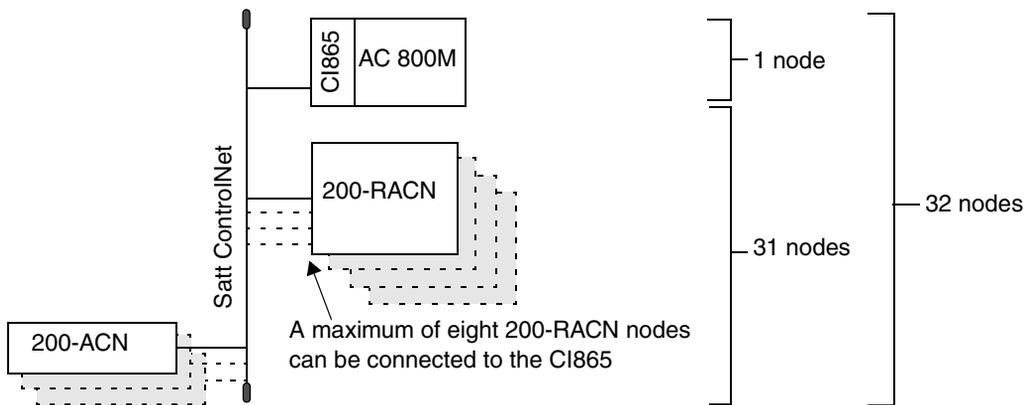

Figure 2. One network can handle up to 32 nodes.
- a mix of 200-ACN and 200-RACN containing together a maximum of 3968 binary I/O channels or equivalent, see Figure 2.